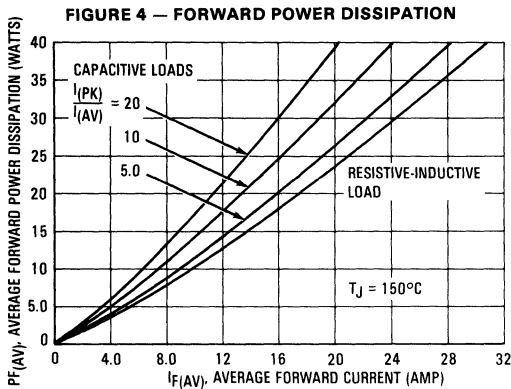

FIGURE 3 — THERMAL RESPONSE, CHASSIS MOUNTED
- $r(t)$ = normalized value of transient thermal resistance at time, t , from Figure 3, i.e.: